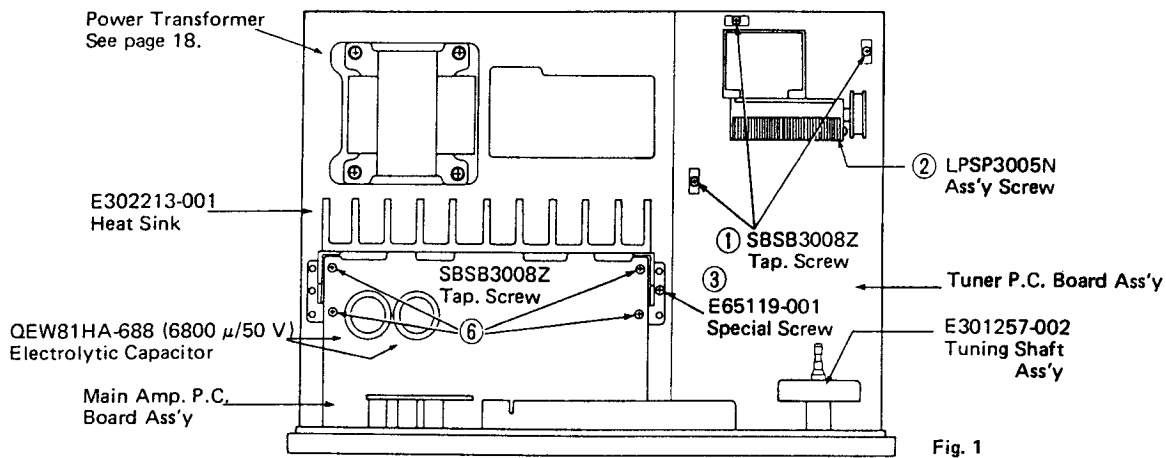

Fig. 1
- Step 1: Remove 5 screws ①, ②, ③. (Fig. 1)
- Step 5: Remove 4 screws ⑥ (Fig. 1) and heat-sink from Main Amp. P.C. Board Ass'y and then replace the transistors.